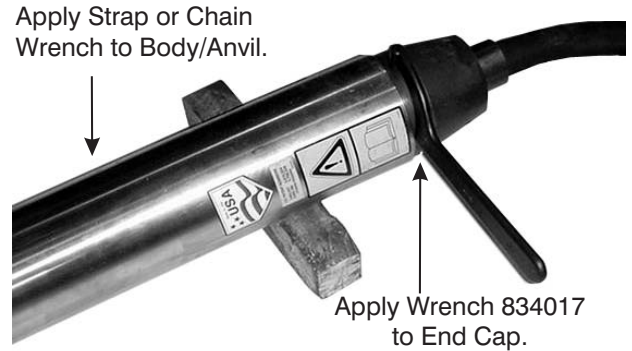

Figure 8-2. Loosening the End Cap.
1. Place the Hole-Hog on a level surface. Holding the Body/Anvil (1) with a strap wrench, use wrench P/N 834017 to loosen the End Cap (9). It may be necessary to strike the wrench handle several times with a hammer to loosen the End Cap. Refer to Figure 8-2.
2. Remove the tail assembly by unthreading the End Cap (9) and pull-